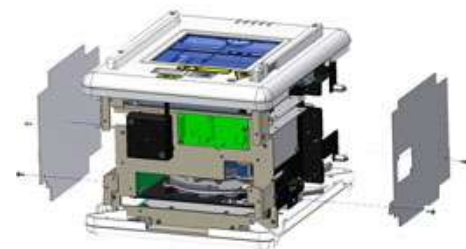

Fig. 2
- Remove the lateral partitions, see **Fig. 2**